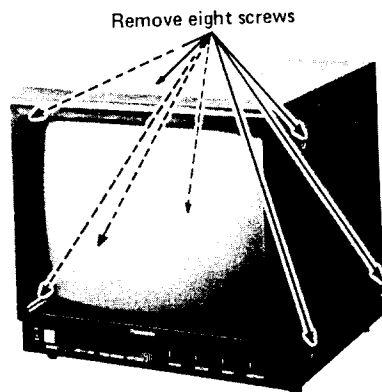

Fig. 2-1-1
- Remove eight screws holding the cover and remove the cover by pulling it backward. (Fig. 2-1-1)